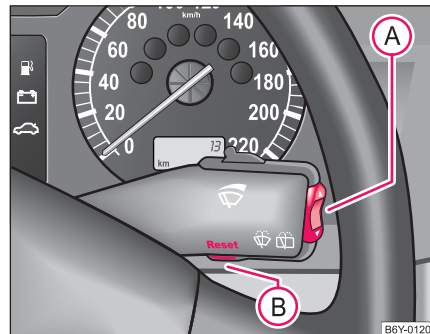

Fig. 7 Multi-functional indicator: Controls
Switching of the memory takes place when the button  $\Rightarrow$ page 18, fig. 7. ►
The rocker switch (A) and the button (B) are located in the grip of the window wiper lever ⇒ fig. 7.
If you wish to determine the average fuel consumption over a certain period of time you must first erase the memory at the start of the new measurement using the button (B ⇒ page 18, fig. 7). A zero appears in the display for the first 300 metres you drive after erasing the memory.
from a particular time of day you must first erase the memory at this moment in time by pressing the button (B ⇒ page 18, fig. 7).
The distance driven since the memory was last erased appears in the display ⇒ page 17. If you wish to calculate the distance driven from a particular time of day you must first erase the memory at this moment in time by pressing the button (B ⇒ page 18, fig. 7).
The average speed since the memory was last erased is shown in the display in km/hour ⇒ page 17. If you wish to determine the average speed over a certain period of time you must first erase the memory at the start of the new measurement using the button (B ⇒ page 18, fig. 7).